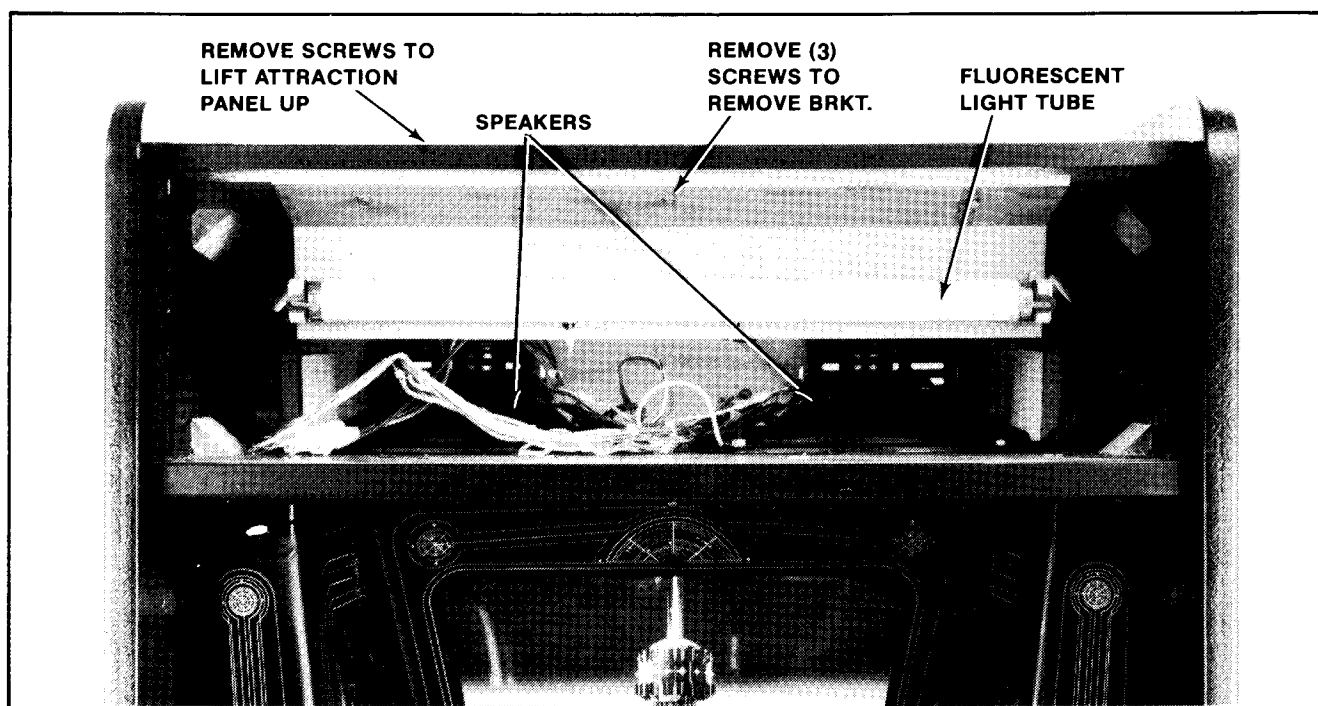

Figure 4-15 Opening Attraction Panel — Upright
Remove the screws which secure the top bracket in place. (They are on its top side.) See Figure 4-15.
Remove the top bracket and slide up the attraction panel. This exposes the attraction panel fluorescent light tube and its mounting bracket assembly. See Figure 4-15.
- ❑ Replacement of the fluorescent tube mounting bracket assembly. See Figure 4-15.
- ❑ Replacing the speaker. See Figure 4-15.